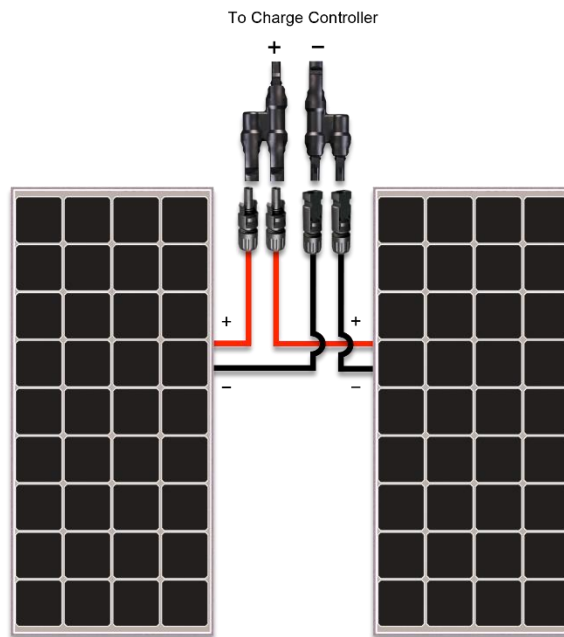

Figure 8.2 Two RNG-100D Panels in parallel
One of the most basic solar configurations involves wiring two solar panels in parallel. This parallel configuration will increase the current output while the output voltage remains the same. **Fig. 8.2** above shows the arrangement for connecting two solar panels in parallel with one pair of MC4 Branch Connectors. This arrangement is applicable if two solar panels will be mounted adjacent to one another. This connection requires **one (1)** pair of MC4 Branch Connectors. When the panels are mounted at different locations- that is, separated by a distance, the panels must be extended with MC4 Extension Cables (sold separately).